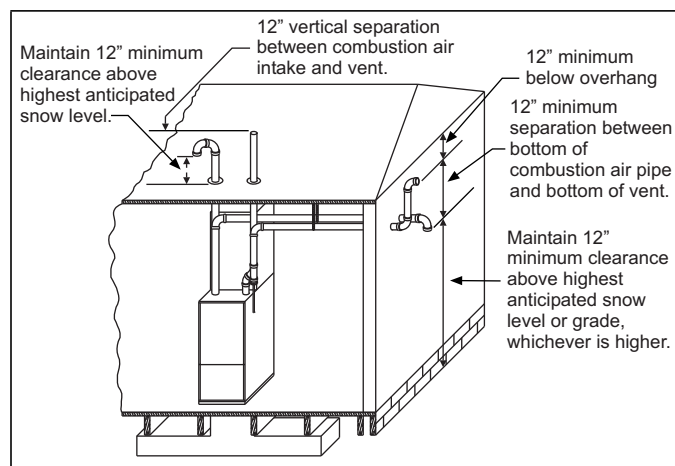

FIGURE 25: Termination Configuration - Two Pipe
- **OUTDOOR COMBUSTION AIR:** This is a direct vent configuration where the combustion air is supplied through a PVC or ABS pipe that is connected to the PVC coupling attached to the furnace and is terminated in the same atmospheric zone as the vent. This type of installation is approved on all models. See Figures 25 and 26.